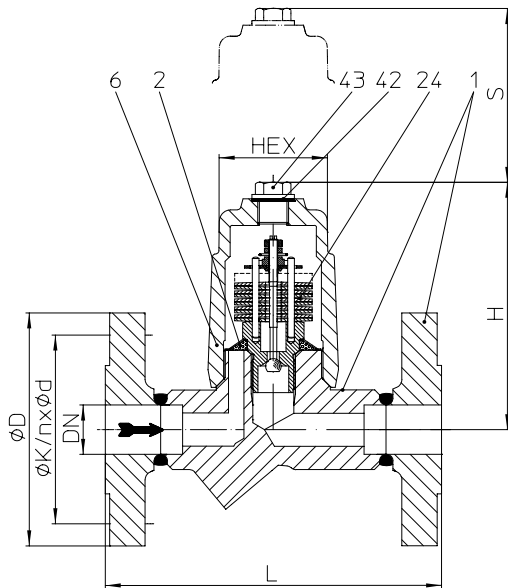
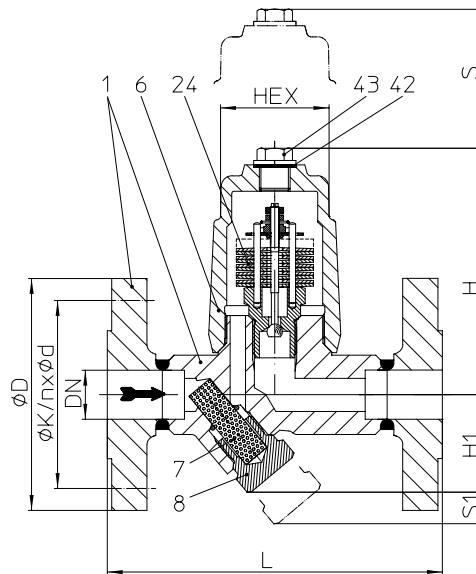

Fig. 645....1 with flanges
Fig. 647.... with flanges
- With inside strainer - Fig. 645 / with outside strainer - Fig. 647 (Y)
For the condensate discharge from a steam pipe, Operating pressure P1 = 4 bar(g), max. Flow 50 kg/h, Opening temperature 80°C, with flanges, ANSI300, NPS 1" => **Condensate discharge temperature limiter, Fig. 647, ANSI300, NPS 1", SA105, Face-to-face dimension 160 mm, with flanges, with thermometer.**